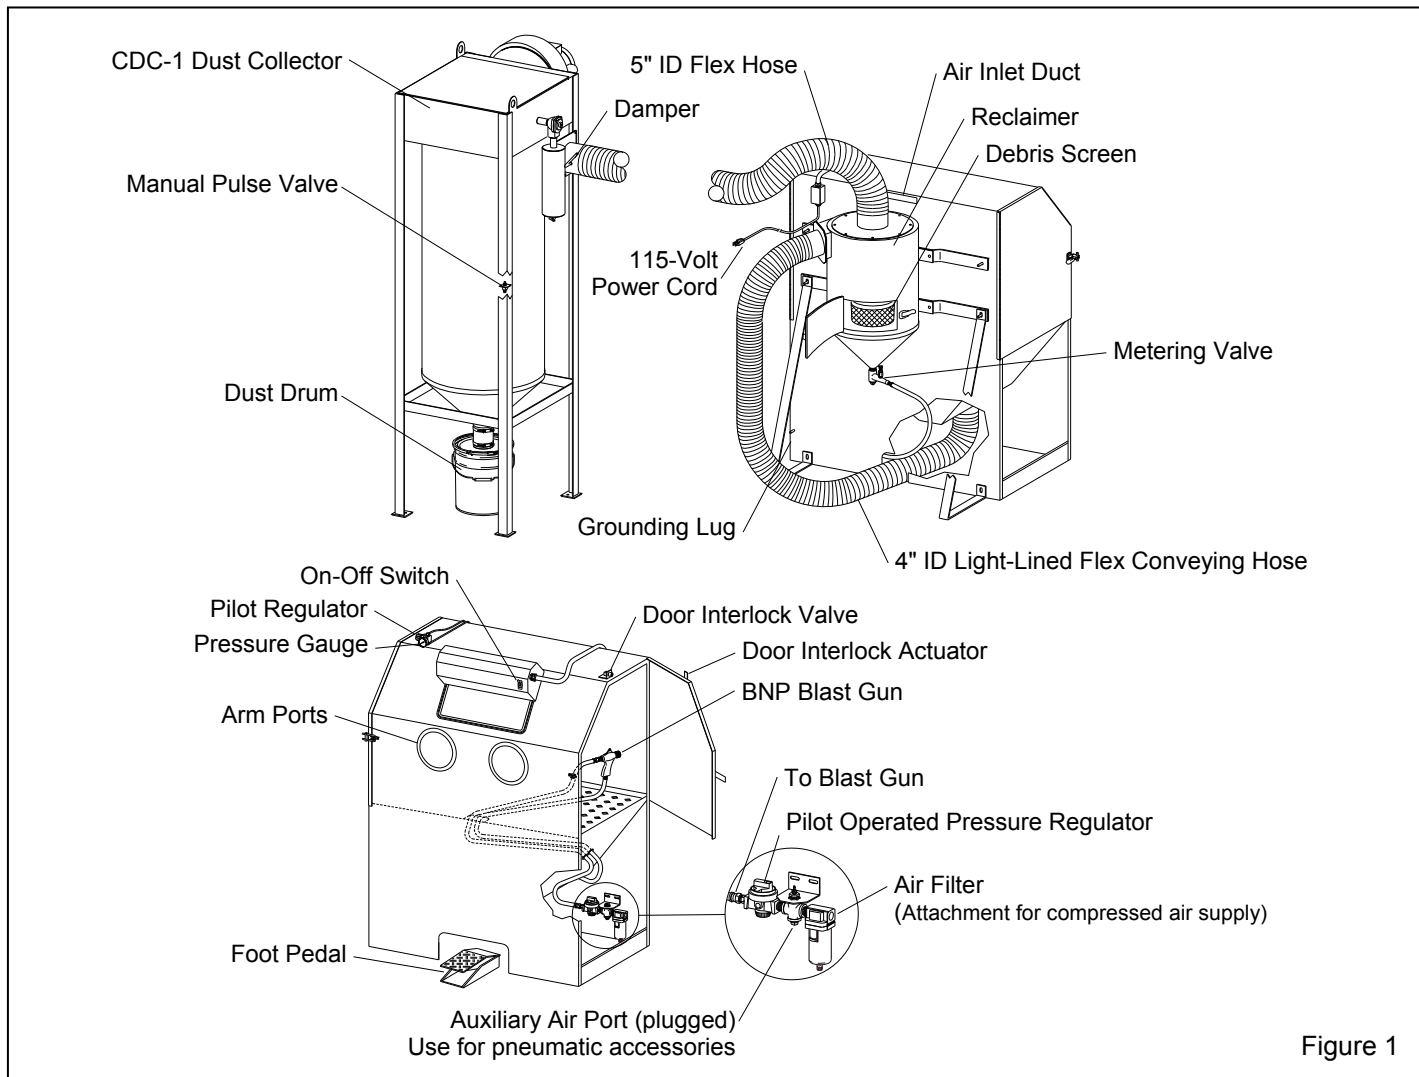

Figure 1
1.3.1 Refer to Figure 1 for arrangement of components. INEX blast cabinets enclose the blasting environment to provide efficient blasting while maintaining a clean surrounding work area. Production rates are influenced by size of nozzle, compressor output, working pressure, type and size of media, angle and distance of the nozzle from the blast surface. INEX cabinets consist of three major components:
2.1.1 Refer to Figure 1 for the general arrangement and place all components in a convenient location where compressed air and electrical service are available. The cabinet location must comply with OSHA and local safety codes. Allow for full access to all doors and service areas, and for efficient handling of large parts. Provide enough clearance at the dust collector for maintenance and to remove the dust container. Determine the best location for all components and position them before making compressed air connections, electrical connections, and attaching flex hose.